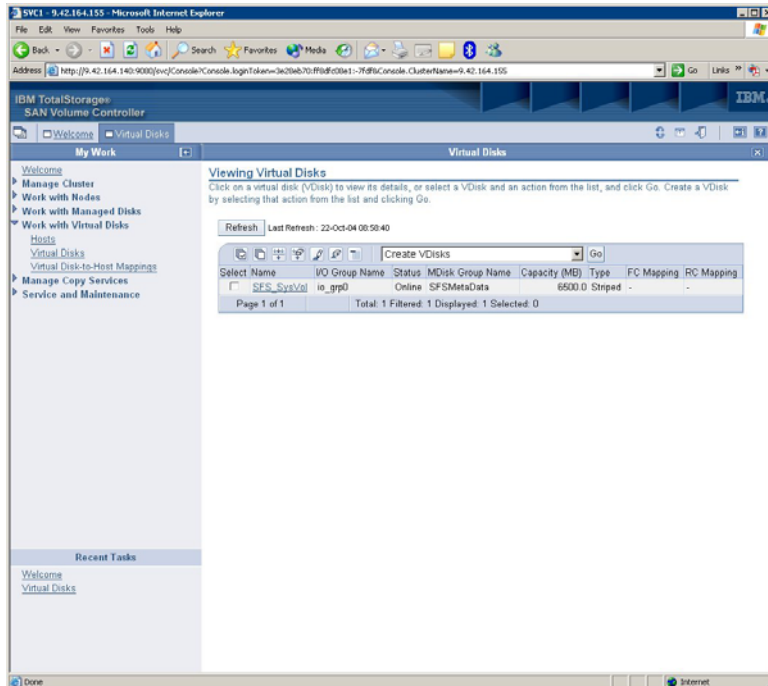

Figure 8. – Create Virtual Disk
5. Create a Virtual disk (vdisk). To do this, click on <**Work with Virtual Disks**> and select <**Create Virtual Disk**>, as shown in the figure 8 below.